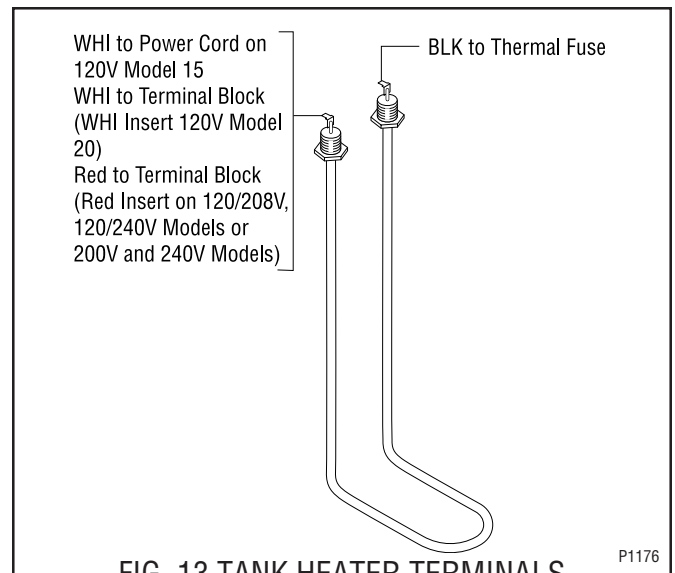

FIG. 13 TANK HEATER TERMINALS
16. Refer to Fig. 13 when reconnecting the tank heater wires.